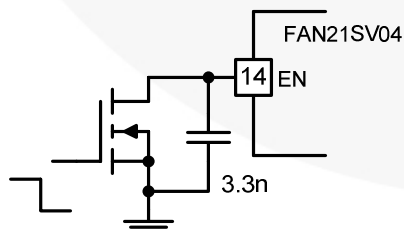

Figure 30. Enabling with External Control
FAN21SV04 has an internal pull-up to the enable (EN) pin so that the IC is enabled once  $V_{IN\_Reg}$  exceeds the UVLO threshold. Connecting a small capacitor across EN and AGND delays the rate of voltage rise on the EN pin. The EN pin also serves for the restart whenever a fault occurs (refer to the *Auto-Restart* section). If the regulator is enabled externally, the external EN signal should go HIGH only after  $5V_{Reg}$  is established. For applications where such sequencing is required, FAN21SV04 can be enabled (after the  $V_{CC}$  comes up) with external control, as shown in Figure 30.